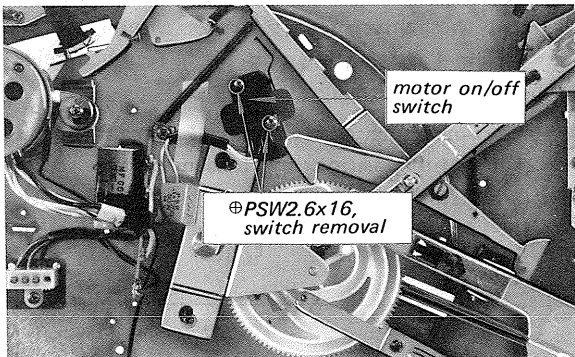

Fig. 2-8. Motor on/off switch replacement
2. Remove the two screws (\oplus PSW 2.6x16) securing the motor on/off switch together with the flat spring as shown in Fig. 2-8. This frees the motor on/off switch.